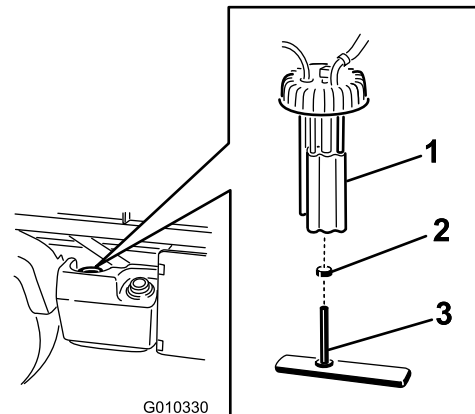

Figure 44
2. Unplug the wire harness connectors from the fuel pump (Figure 44).
3. Loosen the hose clamp and disconnect the fuel line from the fuel pump cap (Figure 44).
4. Un-thread the fuel pump cap from the top of the fuel tank (Figure 44).
5. Remove the fuel pump assembly and fuel filter from the tank (Figure 44).
6. Remove the clamp securing the fuel filter hose to the fuel pump fitting. Remove the hose from the fitting (Figure 44).